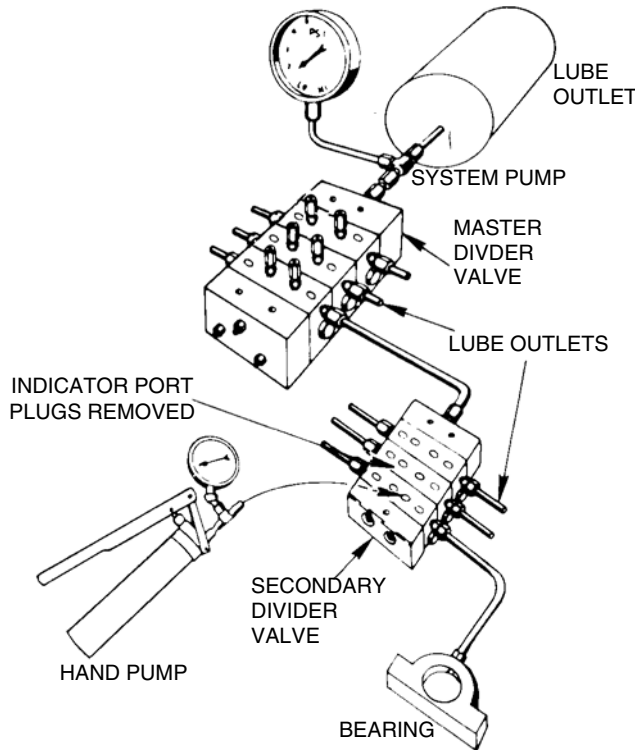

FIG. 13
- 6. Install manual pump into each indicator port of secondary divider valve in turn and slowly operate pump (FIG. 13). If high pressure exists, blockage has been located. Look for **crushed line, tight bearing, improperly drilled fittings and/or lube inlet port**. Correct as necessary.